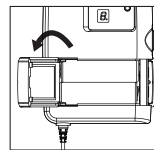

Figure 2
- (2) Uncover the lid and insert two pieces of 1.5V AA batteries according to the polarity indication. (Figure 2)